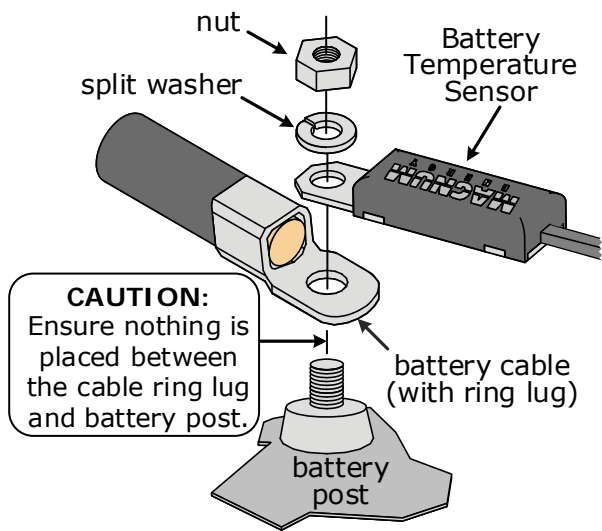

Figure 2-5, Battery Hardware Installation
Refer to Figures 2-5 and 2-6 to connect the DC cables and to stack the hardware correctly. Tighten the terminal connections from 10 to 12 ft lbf (13.6 to 16.3 N-m).
1. Attach the ring terminal end of the Battery Temperature Sensor to the negative battery terminal; see Figure 2-5 for proper connection to the battery terminal.
6. Ensure the DC wire connections (on the batteries, inverter, and DC circuit breaker/fuse lugs) are flush on the surface of the DC terminals, and the hardware (lock washer and nut) used to hold these connections are stacked correctly (see Figures 2-5 and 2-6). Verify all DC connections are torqued from 10 to 12 ft lbf (13.6 to 16.3 N-m).